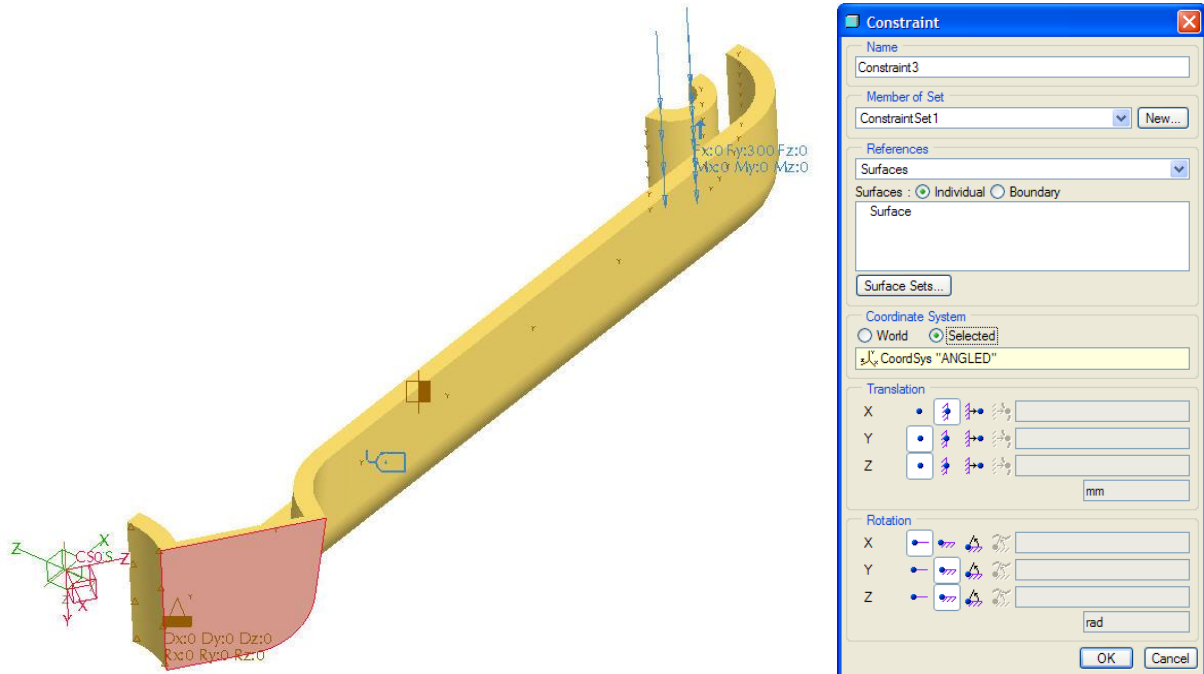

Figure 16 – Second Symmetry Constraints
- We will now add another constraint using this coordinate system. Choose **Displacement** . The constraint dialog will appear. Pick the surface highlighted in red in Figure 16. To use another
coordinate system click on **Selected** below Coordinate System then pick the **Angled** coordinate system. This constraint needs to stop movement across the symmetry plane (X) whilst allowing free movement in the plane (Y&Z). Set the constraints as shown in Figure 16 for both Translation and Rotation.